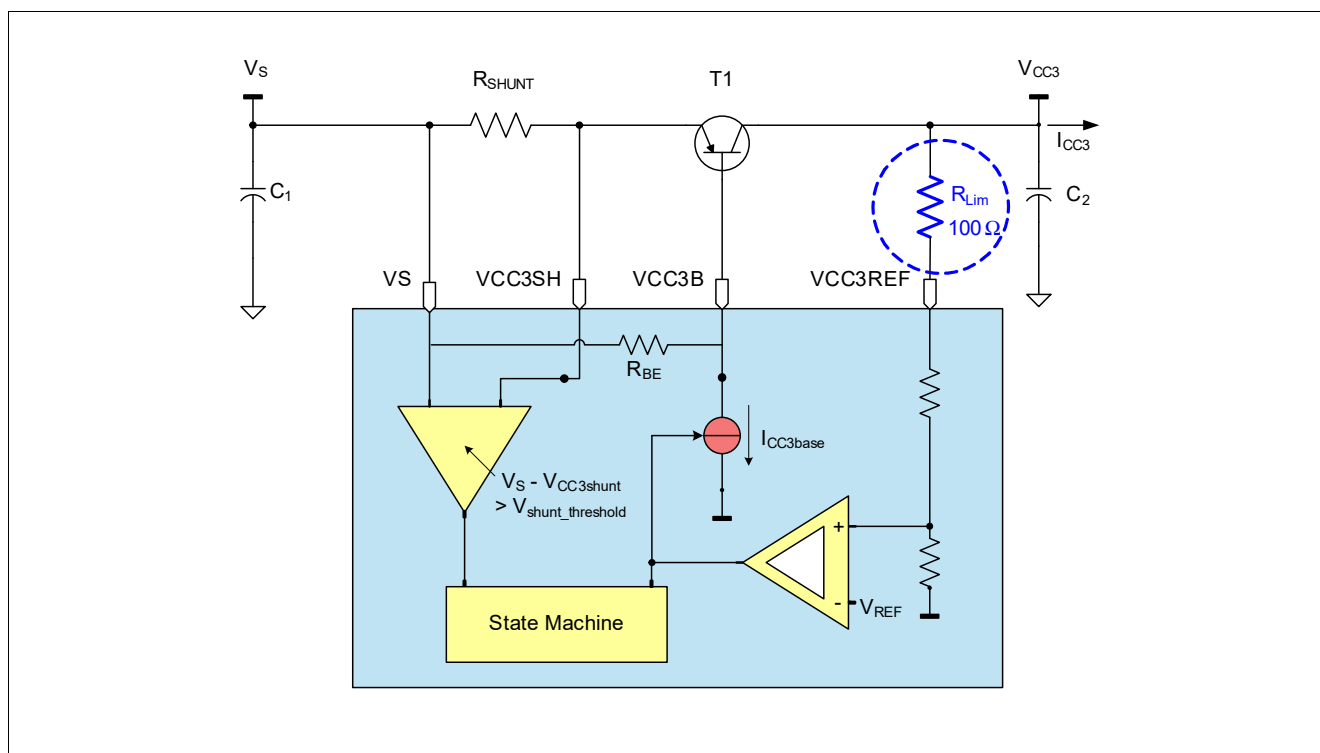

Figure 24 Protecting the VCC3 against inductive short circuits when configured as an independent voltage regulator for off-board supply
3. If the VCC3 output voltage is supplying external off-board loads, the application must consider the series resonance circuit built by cable inductance and decoupling capacitor at the load. Sufficient damping must be provided (e.g. a 100Ohm resistor between the PNP collector and VCC3REF with 10uF capacitor on collector - see also Figure 24).